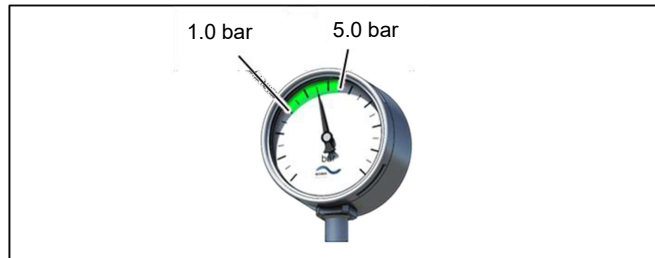

Figure 15: Pressure gauge on supply line
11. Adjust the supply pressure in the range of 1.0 to 5.0 bar (Figure 15), e.g. by adjusting the centrifugal pump (if fitted).